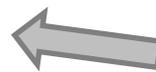

Fig 2
2. Attach the gateway to the screws. Fig 2.